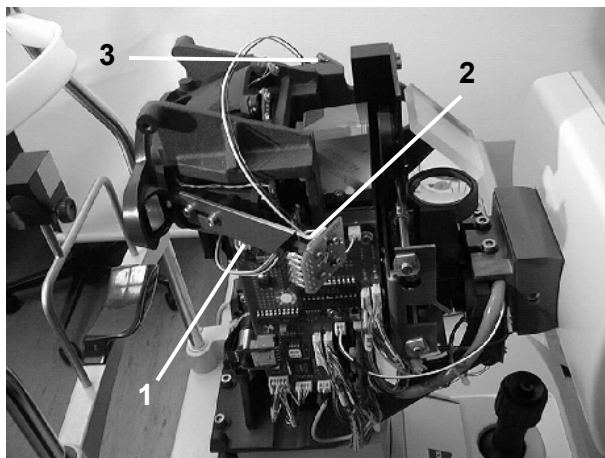

Fig. 13a
- Disconnect plug-in connections ((1, 2 and 3) Fig. 13a).
- Re-establish plug-in connections ((1, 2 and 3) Fig. 13a).